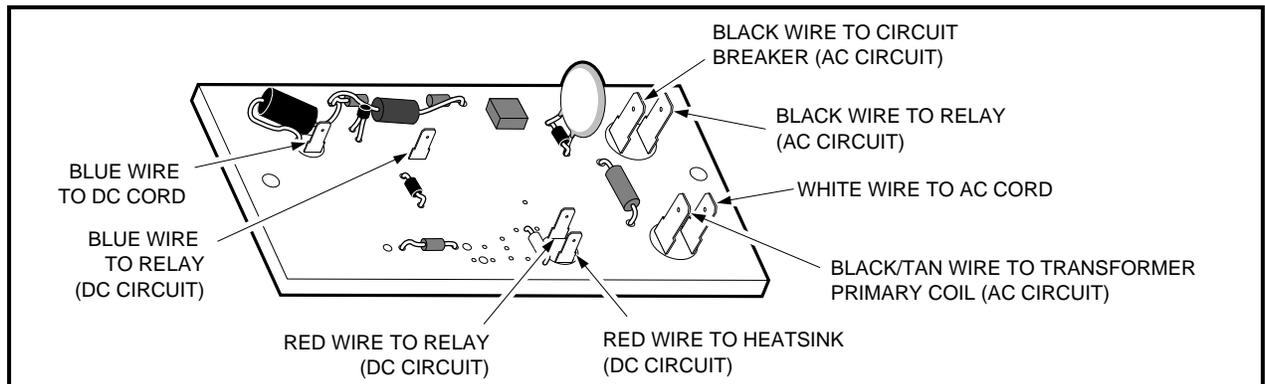

Figure 14-29 Control Board
1. Disconnect black/tan wire from transformer primary coil at terminal on control board (**Figure 14-29, Page 14-27**).